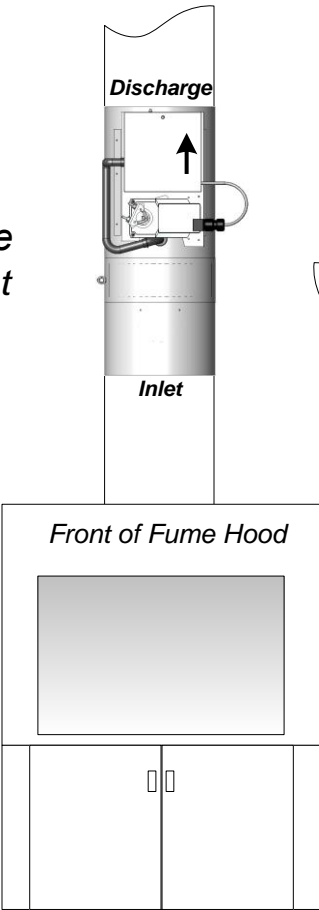

Figure 2
- 3. Locate the duct section which the valve is servicing and select a suitable mounting location for the valve. The recommended mounting position is vertical as shown in Figure 1. If vertical mounting is not possible and the valve is installed in a horizontal duct run, the valve shall be positioned with the controller on the top as shown in Figure 2.